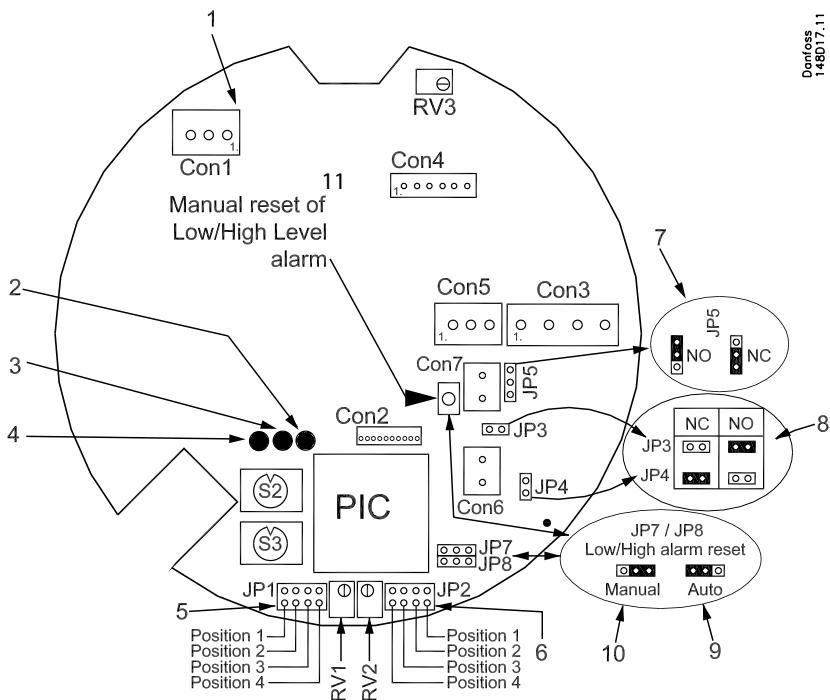

fig. 6
Apply voltage at CON 1 and the green LED will light up (fig. 6).
(fig. 6)
**Manual reset / auto reset of Low/High Level alarm (fig. 6)**
**Adjusting delayed response time (fig. 6)**